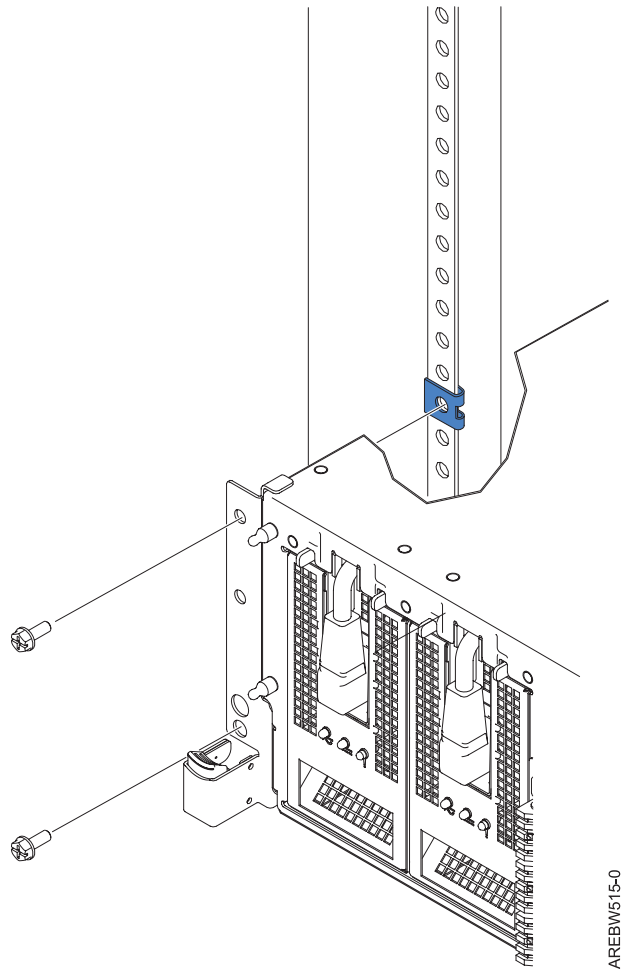

Figure 58. Secure system to rack through rack latches
11. Install and position the nut clips before inserting the screws. Use the retaining screws to attach the system to the rack as shown in Figure 58 on page 54.